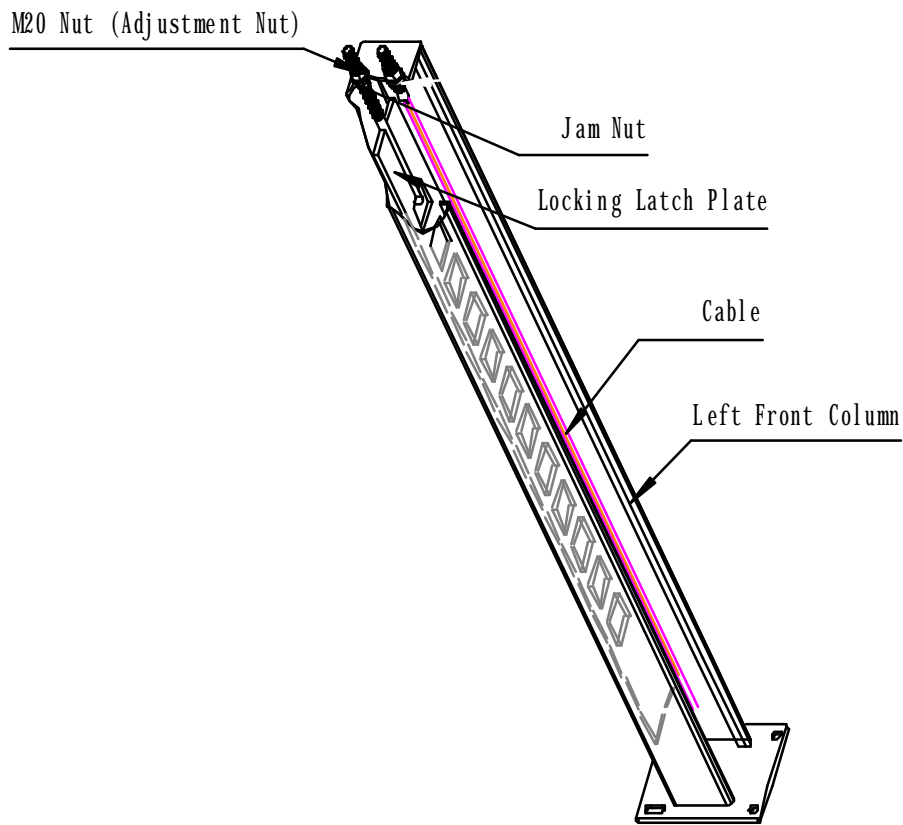

Fig.4
- I Leveling preset: 4 adjustment nuts at top plates of the columns can be adjusted to level the runways. (Fig. 4).
back of the column (Fig.4). The latch plate should be oriented toward the back of the column from the centre line of the threaded stud.